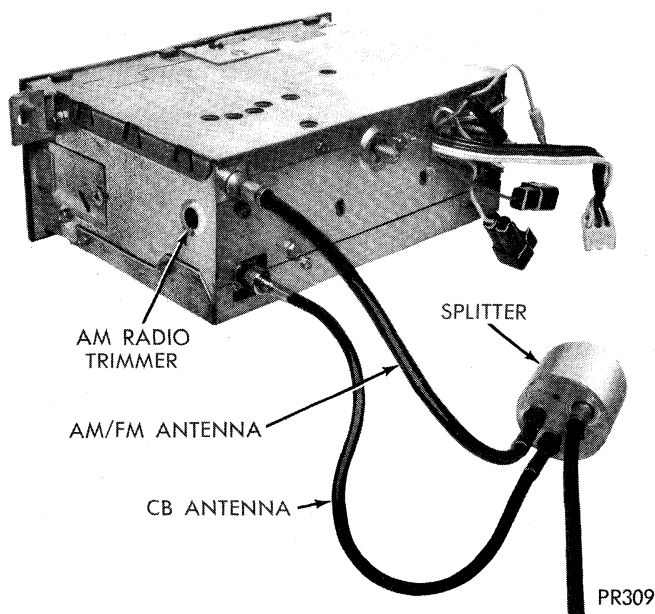

Fig. 12—Splitter Assembly
(3) If antenna passes above tests place a known good splitter (Fig. 12) in the circuit and reconnect main antenna cable. (Use only the proper splitter). If VSWR is satisfactory after adjustment (see above) then replace the splitter.